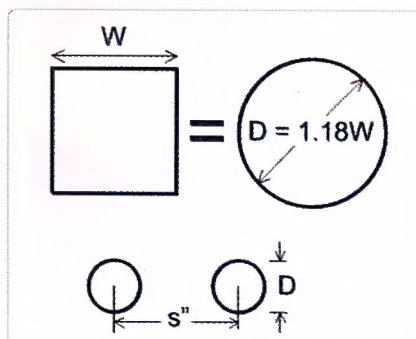

Figure 2: Substituting the 'round equivalent of square'. It works for antenna elements, not with transmission lines.
I spent quite some effort trying to adapt microstrip design practices, but that proved a frustrating dead end. I posted a question to the VK-VHF Reflector about calculating the characteristic impedance of square-section parallel lines. Answers alerted me to the idea that, in RF applications, there is an "equivalent" round-section conductor for a given square-section conductor. For a square-section width, W , the electromagnetic equivalent round-section conductor of diameter (D) is 18% larger (Schmidt), as illustrated in **Figure 2**.